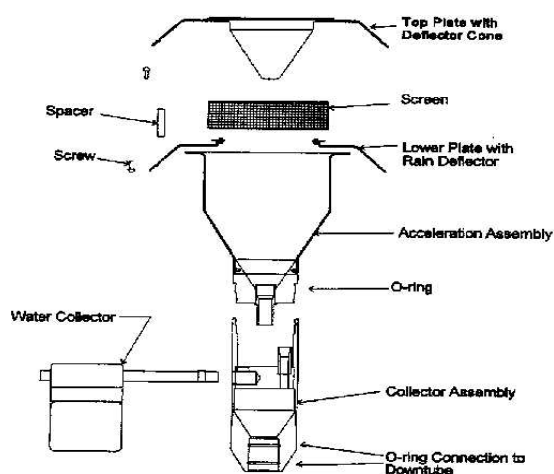

Figure 5-1 First Stage Inlet
- ii) Disassemble the upper and lower inlet halves by unscrewing counterclockwise the top acceleration assembly from the lower collector assembly (Figure 5-1).